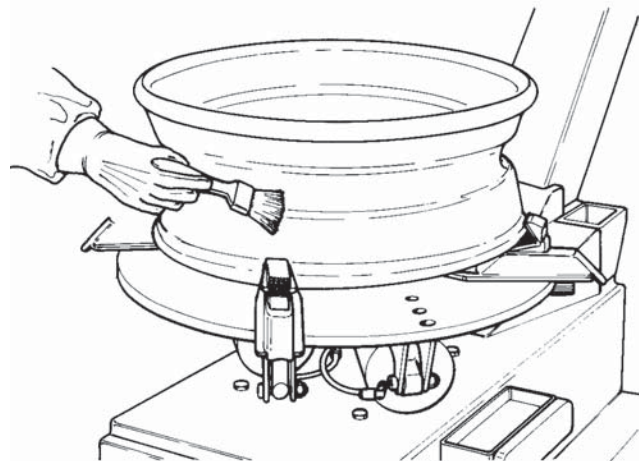

Fig. 19
A. Clean entire rim surface (Fig. 19).